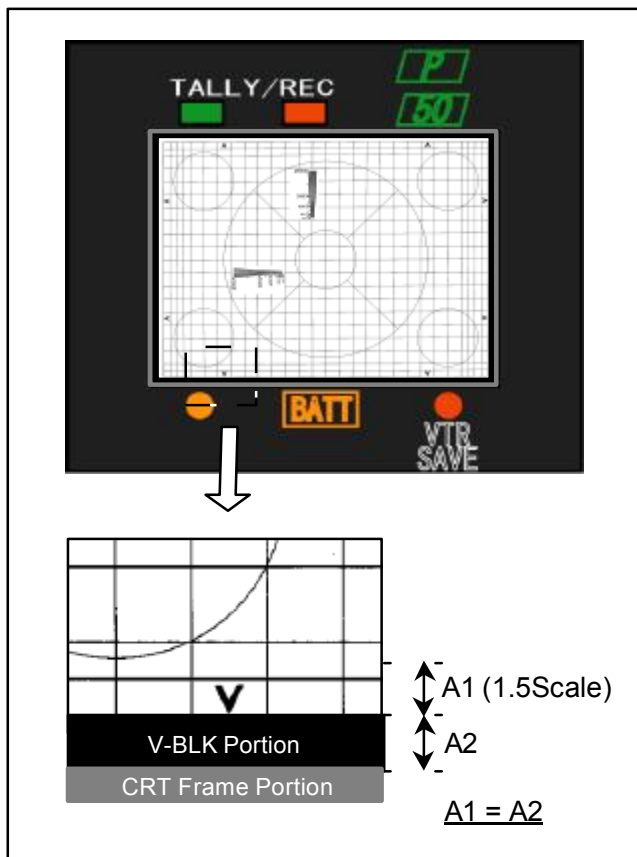

Fig.2 Screen size Adjustment
2. Adjust **RV3** (On SUB1 BOARD) so that the V-BLK as is within 1.5point scale shown in figure 2.